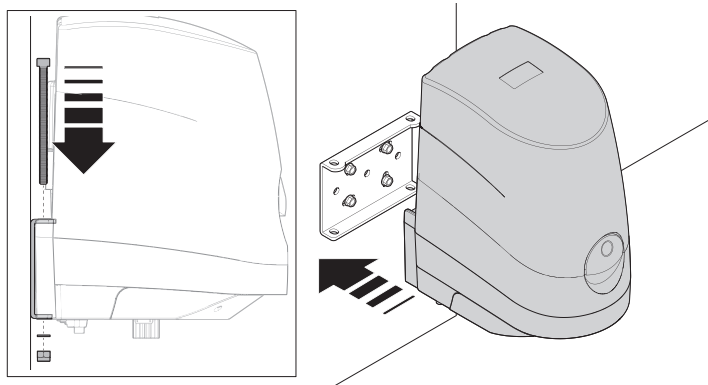

Fig. 7
01. Secure the gear motor to the bracket as shown in Fig. 7 using the screws, washers and nuts supplied;